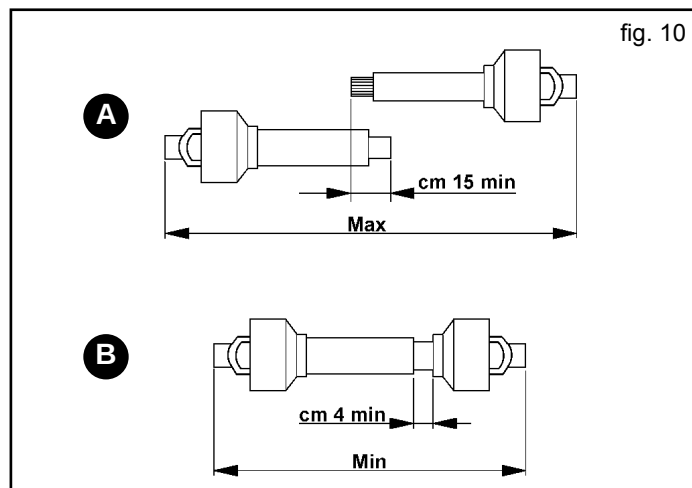

fig. 10
- When the Cardan shaft is pulled out as much as it can go, the two pipes must be superimposed for at least 15 cm (A, Fig. 10). When it is inserted all the way, the minimum play allowed must be 4 cm (B, Fig. 10).